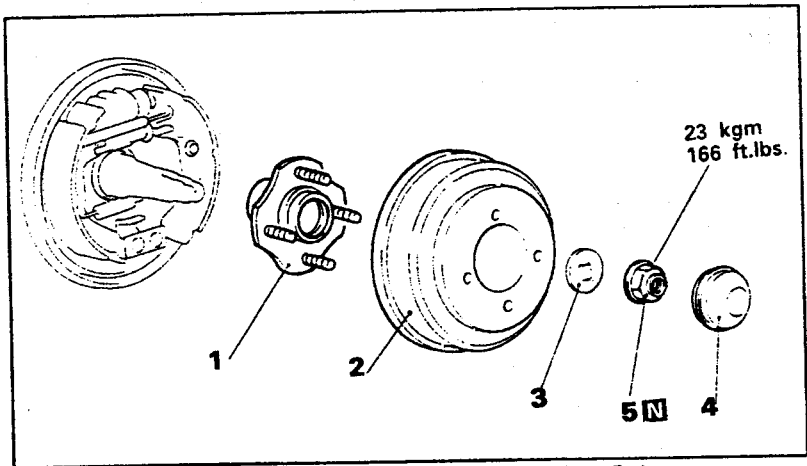

Fig. 11.5. — Rear wheel hub/bearing assembly — Drum Brakes
The rear wheel hubs contain the wheel bearing and cannot be dismantled, i.e. a damaged wheel bearing requires the replacement of the complete with hub, together with the bearing. The hub and bearing can, however, be re-used if the assembly has been removed for other reasons than replacement. Fig. 11.5 shows the wheel hub when drum brakes are fitted. Note that the wheel hub nut (5) must always be replaced. The shoulder of the nut is peened into the slot of the wheel shaft and cannot be used a second time.
- Tighten the hub nut to the torque given in Fig. 11.5 and check the wheel hub end float as described above. If satisfied, peen the metal of the nut into the cut-out of the wheel spindle to secure the nut in position, after reading the next paragraph.